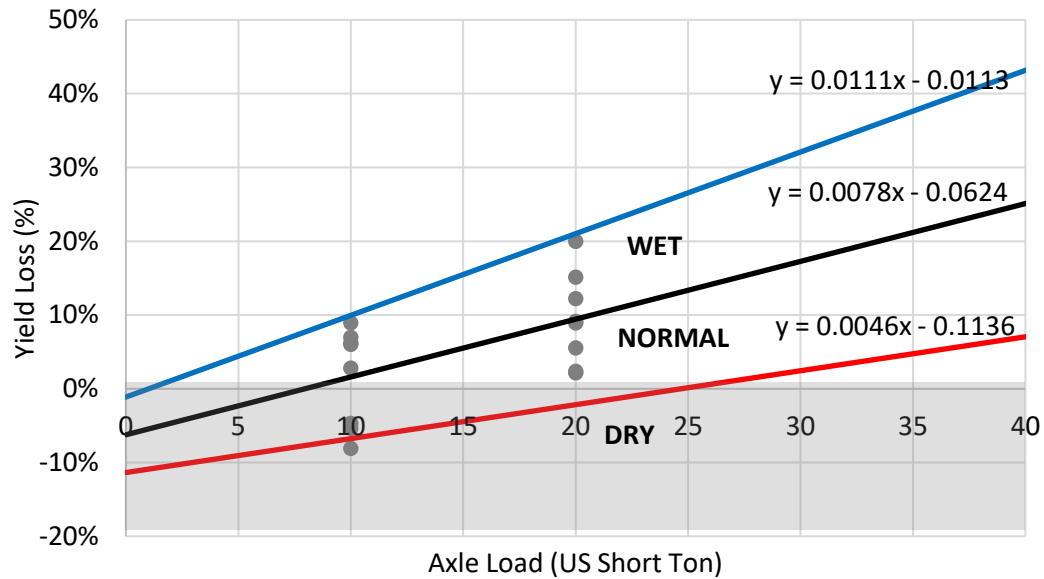
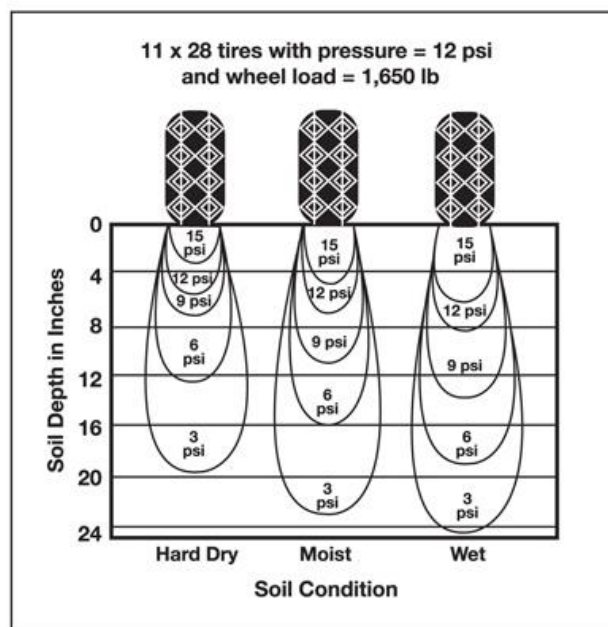

Figure 3. The Effect of Axle Weight and Soil Moisture on Crop Yield Losses Due to Soil Compaction. Fulton, et al., OSU, 2017 CompactionSmart.
Figure 4. The Effect of Increasing Soil Moisture on the Depth and Severity of Soil Compaction. Hakaansson and Reeder (1994) and Duiker (2004).
1. Know when the soil is fit (drier soil, Figure 3 and 4)
2. Reduce the weight (total load, Figure 4)
Figure 3 shows that compaction risk increases more rapidly with wet soils at any given axle load. Figure 4 shows that increasing soil moisture drives compaction deeper into the soil.